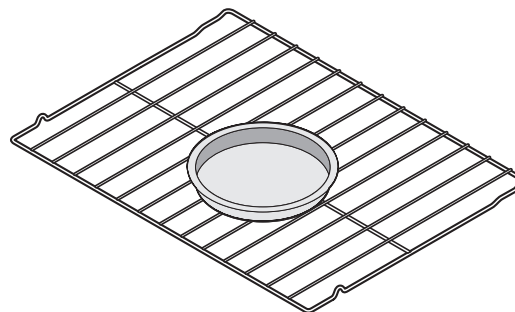

Figure 6: placing food for best results
- Place the food as shown in Figure 6.